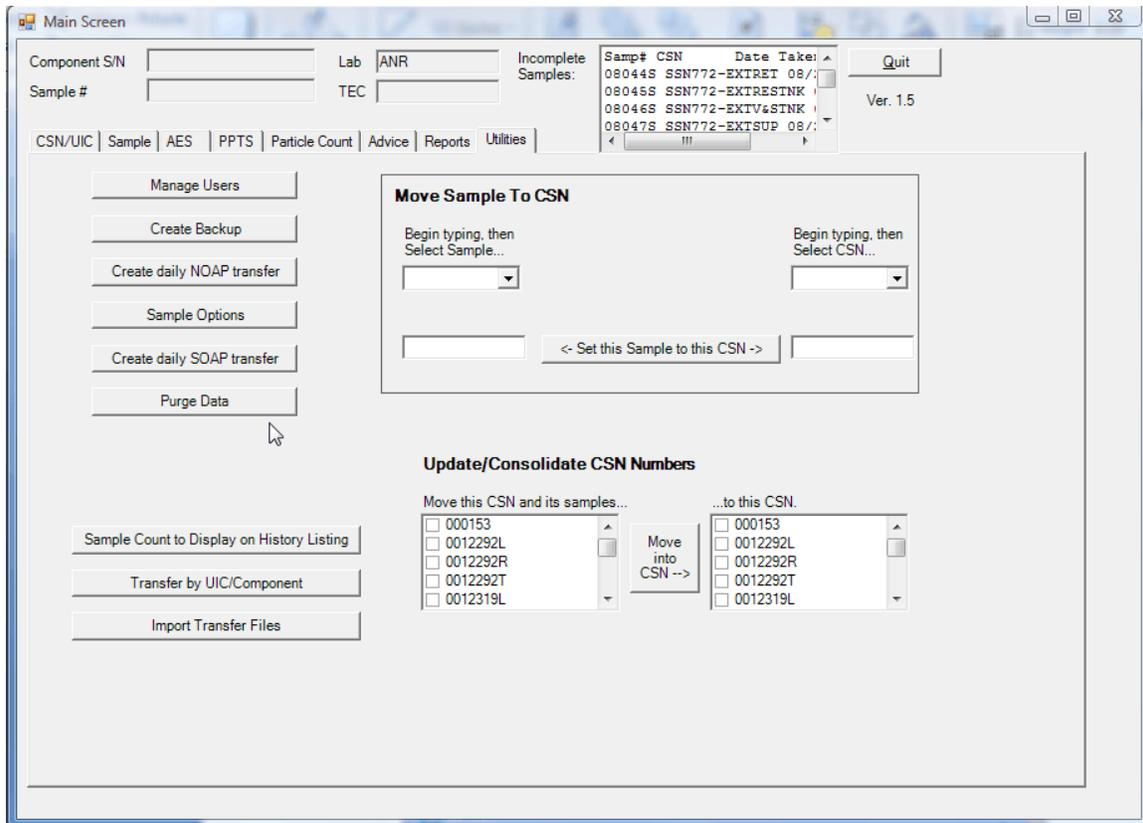

Figure 65. Utilities Tab
(1). From the main sample screen press the Utilities tab and the following screen will appear (Figure 65).